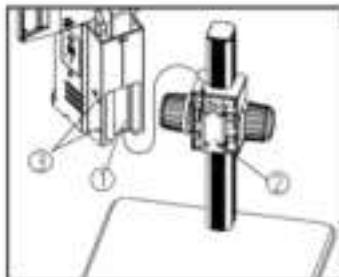

Fig.1
- Match the dovetail interface (1) of the microscope body with the dovetail groove (2) of the focus bracket group, and insert it from top to bottom as the direction shown in the figure, fix the screw in the screw groove.
- Tighten the screw on the body group (3) with a M4 inner hexagon spanner (side length 2mm). (See Fig.1)